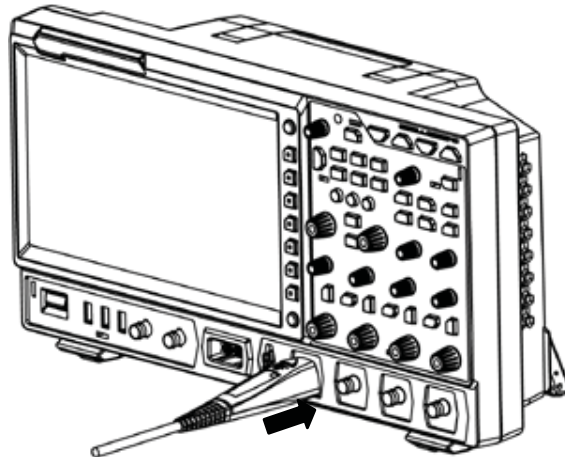

Figure 8 To Connect the Active Probe
2. Connect the other end of the preamp to an analog channel input terminal of the oscilloscope on the front panel, as shown in Figure 8. Note that you should push the probe to the end to ensure that it is tightly connected.